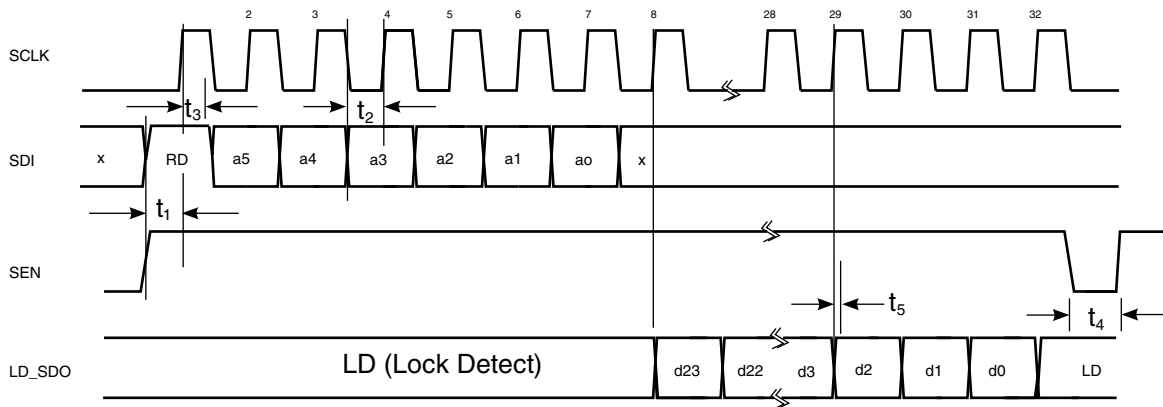

Figure 37. HMC Mode Serial Port Timing Diagram - READ
A typical HMC Mode READ cycle is shown in Figure 37.
- a. The Master (host) asserts both SEN (Serial Port Enable) and SDI to indicate a READ cycle, followed by a rising edge SCLK. Note: The Lock Detect (LD) function is usually multiplexed onto the LD\_SDO pin. It is suggested that LD only be considered valid when SEN is low. In fact LD will not toggle until the first active data bit toggles on LD\_SDO, and will be restored immediately after the trailing edge of the LSB of serial data out as shown in Figure 37.
- b. The slave (PLL) reads SDI on the 1st rising edge of SCLK after SEN. SDI high initiates the READ cycle (RD)